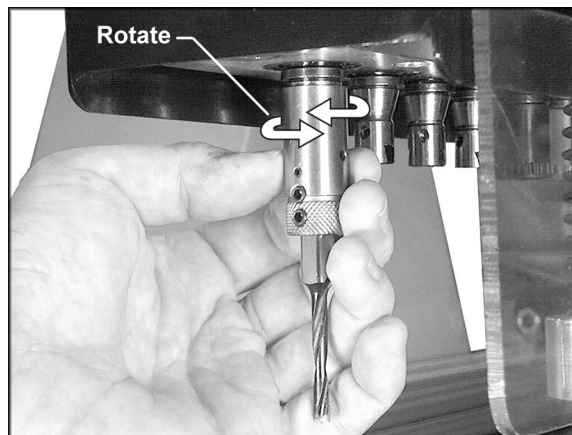

Figure 9
5. Push the chuck all the way up onto the spindle. Rotate the chuck right and left while pushing it, to make sure it properly engages the spindle, and is fully seated, as shown in Figure 9. (The roll pin inside the chuck should slide up into the notch at the bottom of the spindle.)